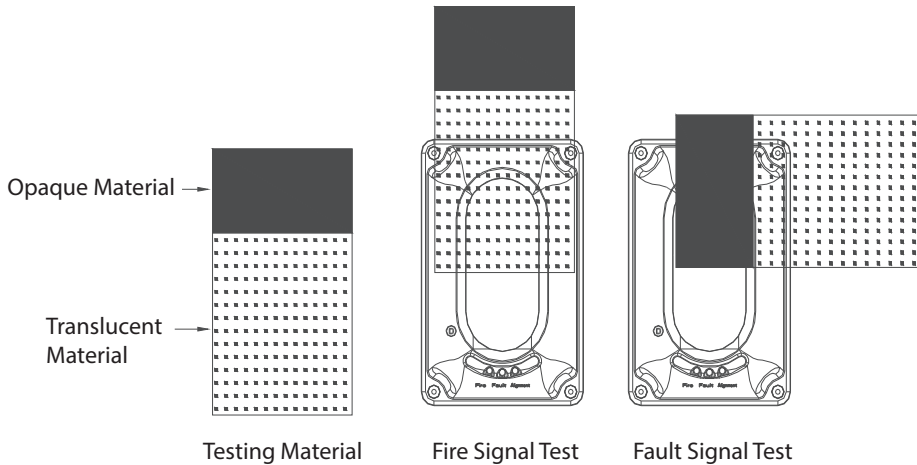

Figure 9. Testing Details
- A. Using the supplied Opaque/Translucent testing material, cover one half of the beam detector using the translucent portion of the material. Within less than 30 seconds the Red LED [Fire] will turn on steady, indicating Fire signal. [The fire alarm relay [HJ1 and HJ2] will latch to normally closed]. Refer to Figure 9.
Note: Using the supplied Opaque/Translucent testing material, cover one the half of the beam detector using the opaque portion of the material. Right after the Yellow LED [Fault] turns on, indicating the fault signal. [The fault alarm relay [GZ1 and GZ2] will latch to normally closed]. Refer to Figure 9.